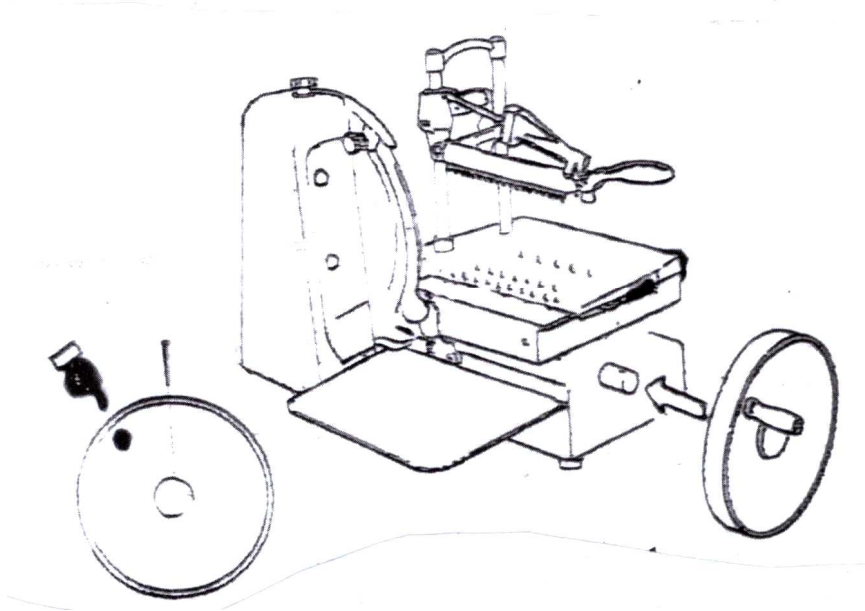

Fig. n.3
3. Insert the flywheel so that the maneuvering handle is located in the upper left of the axis of the hole for the taper pin fixing (Fig. n.3).